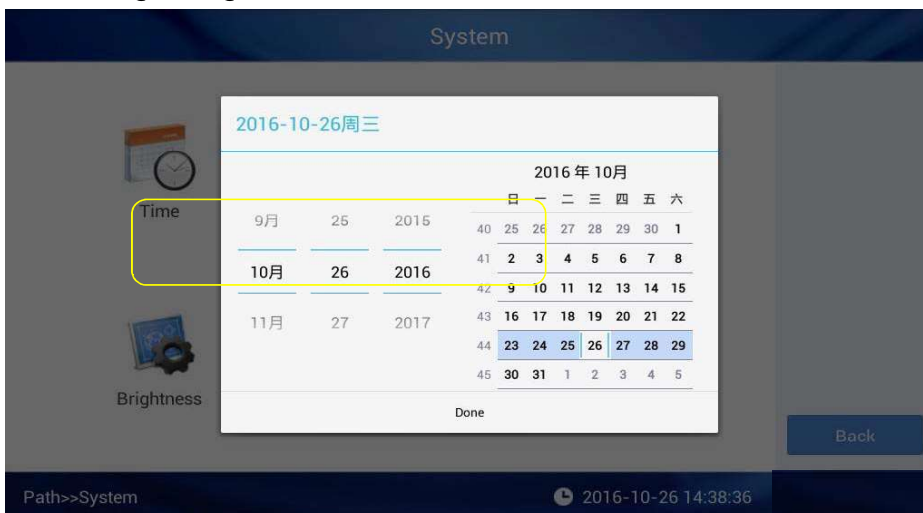

Fig 4.30 Date setting
① Click **Set Date** to enter the interface as Fig 4.30, click the time button to unlock the date setting area, sliding setting the date.